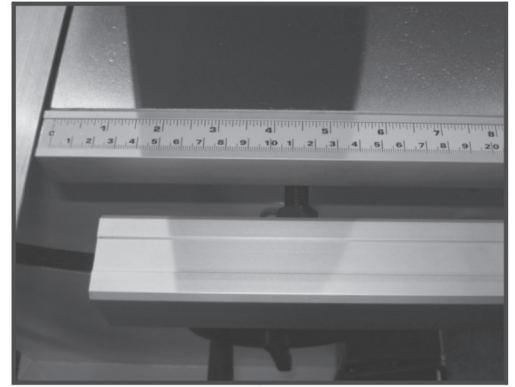

Fig. 11
4. Insert the studs into the table (Fig. 11) Tighten with an M12-1.75 hex nut, lock washer and a flat washer on each stud.